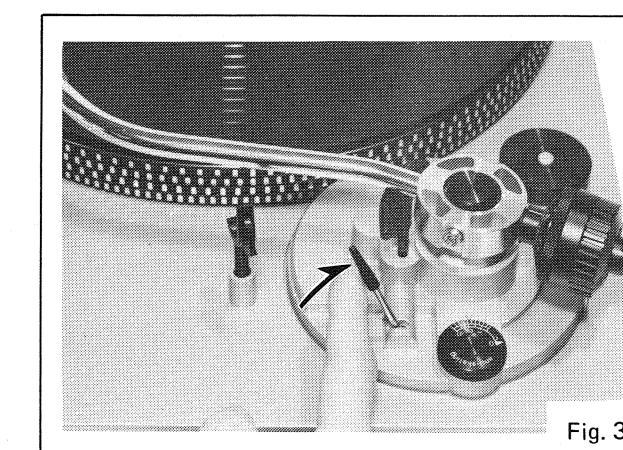

Fig. 3
5. Set the cueing lever to the up position. (See Fig. 3.)